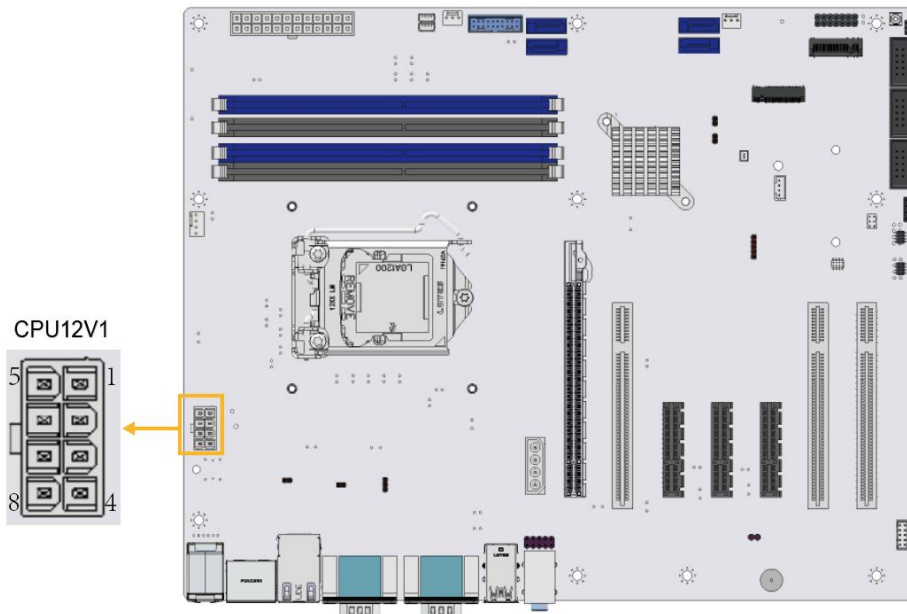

Figure 3-2: ATX CPU 12V Power Connector Location
- CN Location:** See **Figure 3-2**